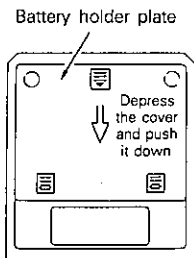
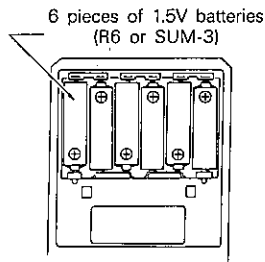

Fig. 5
Fig. 6
•How to Replace Batteries (Fig. 5 and 6)
When to replace the batteries, depress the square marked portion at the upper center of battery holder cover at the rear side of tester (Fig. 5), and push it downward; then the cover will be removed. Mount the new batteries correctly as shown in Fig. 6. In this case, be careful for the polarity (+/-) of batteries.